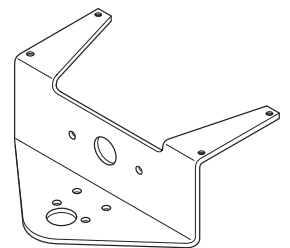

FIGURE 1
3. To under counter mount, choose a mounting surface that will support the weight of the unit. Using mounting bracket DCI part #4272 (not included), mount to underside of counter utilizing the four pre-drilled holes and appropriate fasteners (see Figure 1). Mount the back chassis assembly to the control unit using the appropriate fasteners.